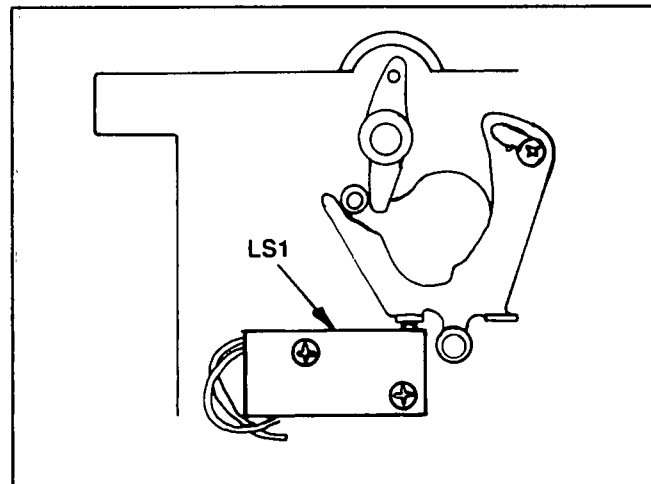

Figure 10. Limit Switch LS1 Removal
See Figure 10. With the solenoid coil removed, limit switch LS1 is accessible. Remove two (2) screws, then remove LS1 along with two insulator strips. Wires on switch LS1 are soldered connections.